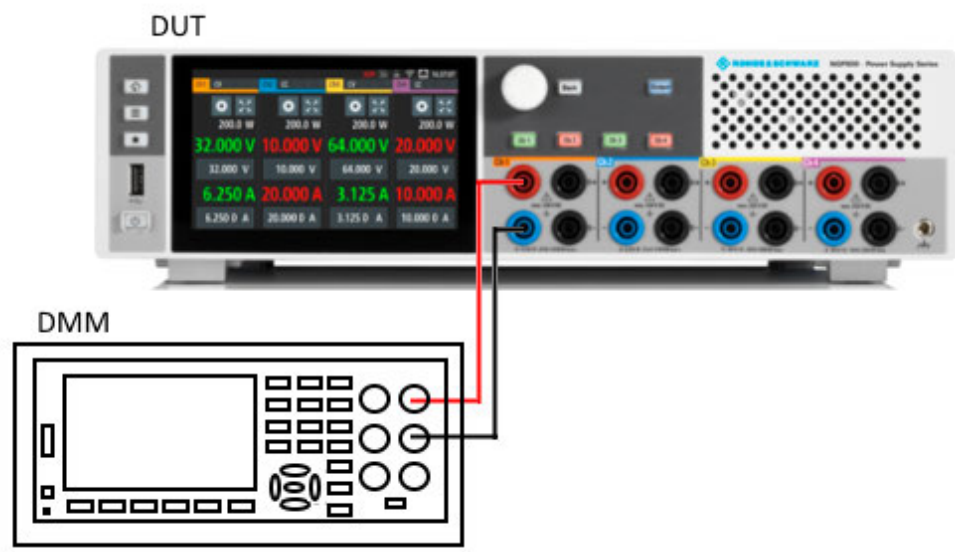
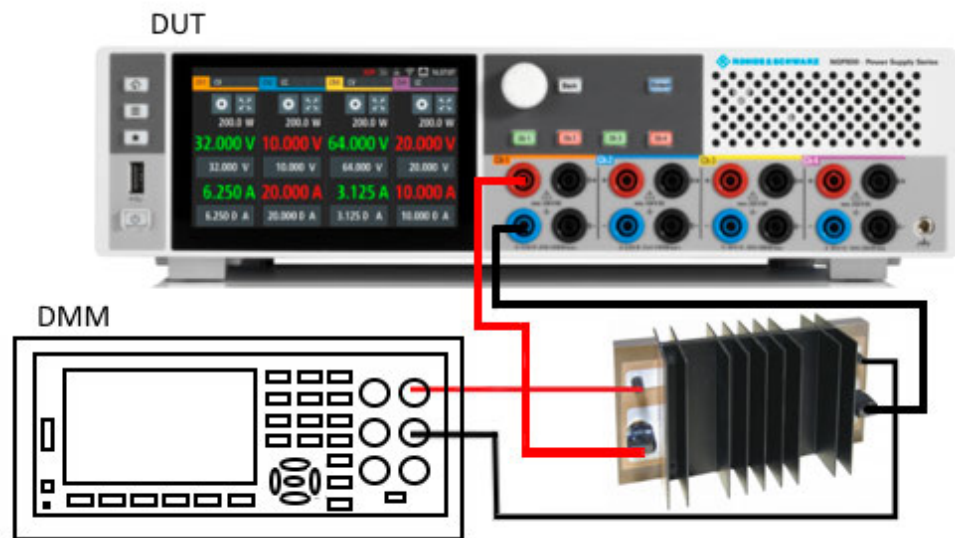

Figure 7-71: Voltage adjustment setup
Figure 7-72: Current adjustment setup
- Connect the DMM to the instrument and monitor the measured voltage or current. See Figure 7-71 and Figure 7-72.
4. Depending on the types of adjustment (voltage or current), setup the instruments illustrated in Figure 7-71 or Figure 7-72.